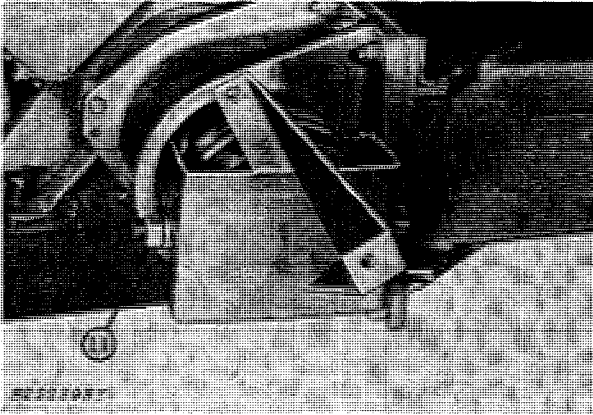

Fig. 5-Installing Ladder Support
11. Attach and secure ladder support with existing hardware (Fig. 5).